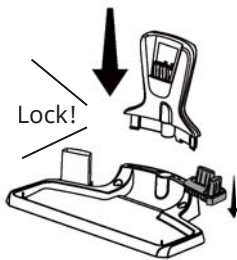

Fig.4
- Insert vacuum cleaner support and brush tool attachment into charger base and lock into place (Fig.4).